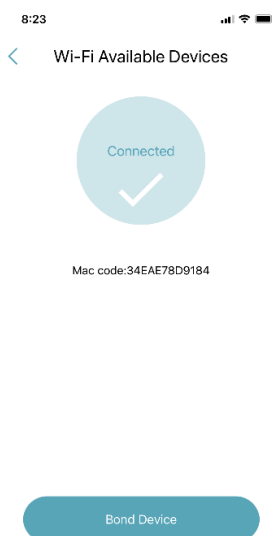
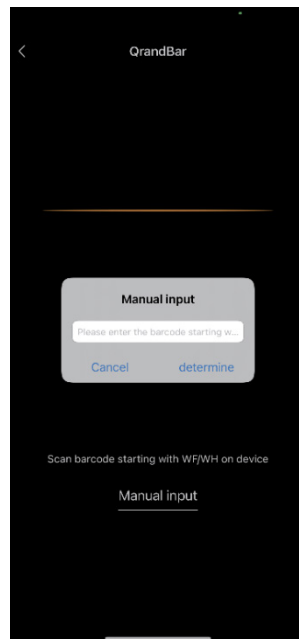

Fig. 10: Device Bonded
Fig. 11: Manually Input Barcode
4. Once your device has been recognised (Fig. 10) you will then need to link your device using the barcode (Fig. 11 – 12). You can either use the camera to scan the barcode or enter it manually, the correct barcode will start with a WF.